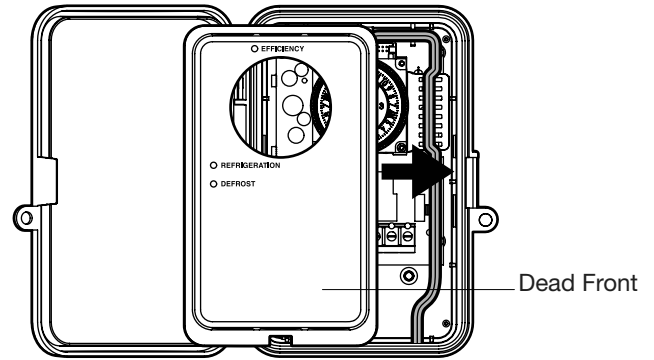

FIG. 11 Attach the Dead Front
1. Snap the provided dead front cover into place, if applicable. See FIG. 11.